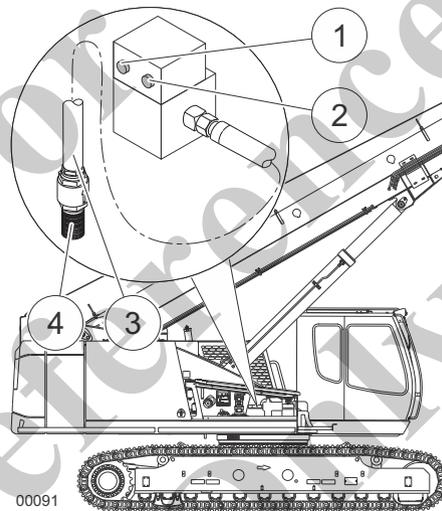

Fig. 95 Activating the fuel pump
7	Check the intake filter (4) in Fig. 95 for contamination and damage. Replace the intake filter if necessary.
8	Attach the fueling hose (3) in Fig. 95 to the intake port on the fuel pump and insert it into external fuel tank.
9	Turn on the fuel pump by pressing the green button (1) in Fig. 95. – The tank is filled automatically. The fuel pump automatically turns off once the tank is full.
10	The red button (2) in Fig. 95 turns off the fuel pump if necessary.